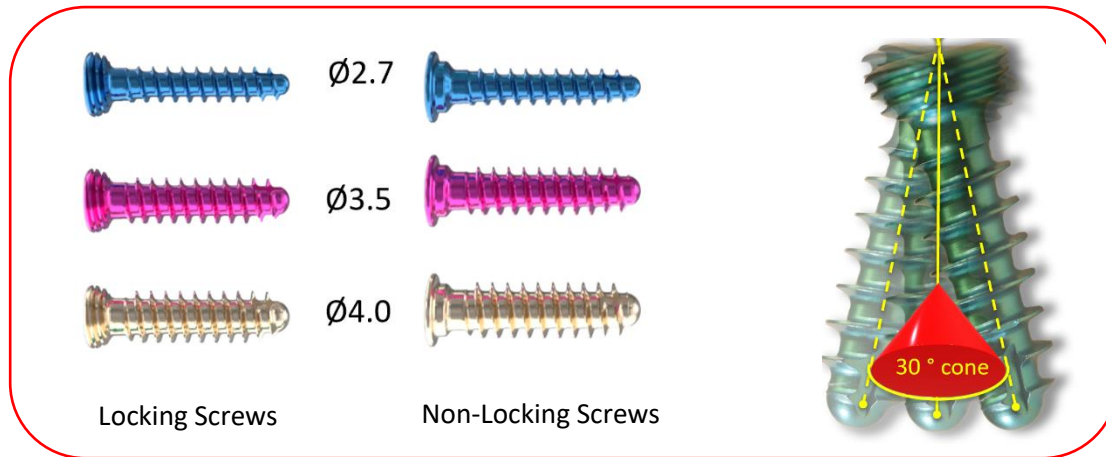

Figure 1
5. All plate screws (**Figure 1**) may be inserted through the screw holes in a $\pm 15^\circ$ conical range of trajectories.